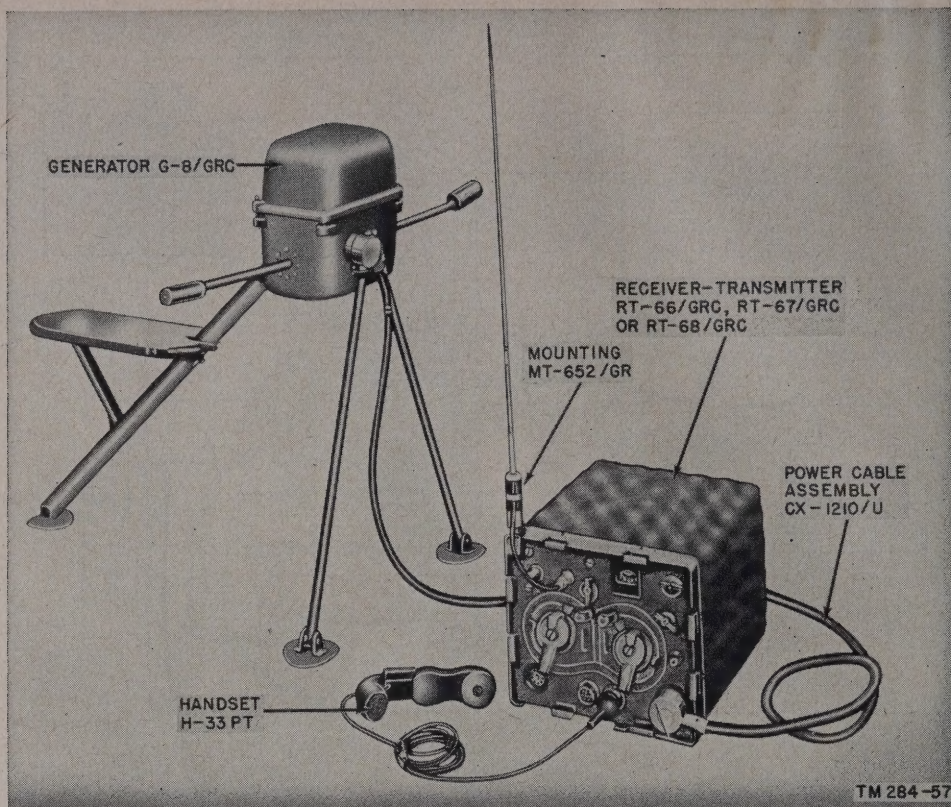

Figure 98. Field installation of Set 1 with Generator G-8/GRC.
- (1) Remove Set 1 from Mounting MT-297/GR and pack it in Bag CW-188/GR. If the battery case is not going to be used, it can be removed from the other Bag CW-188/GR to lighten the burden. Take the three bags to the location selected for field operation of the set.
- (2) Set up the generator and Set 1 as indicated in figure 98. Connect either end of Power Cable Assembly CX-1210/U to the generator and the other end to the POWER IN connector on Set 1. (When Set 1 is used with Generator G-8/GRC alone, the generator supplies all the operating voltages for both the receiver